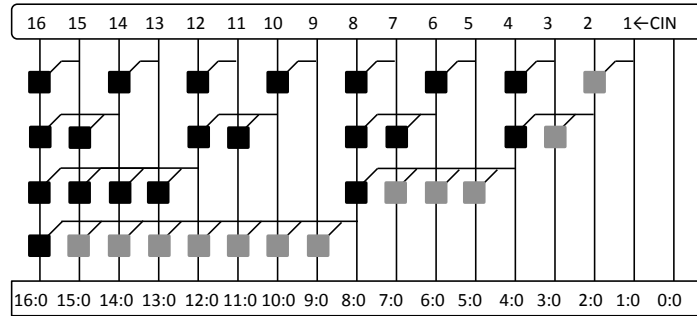
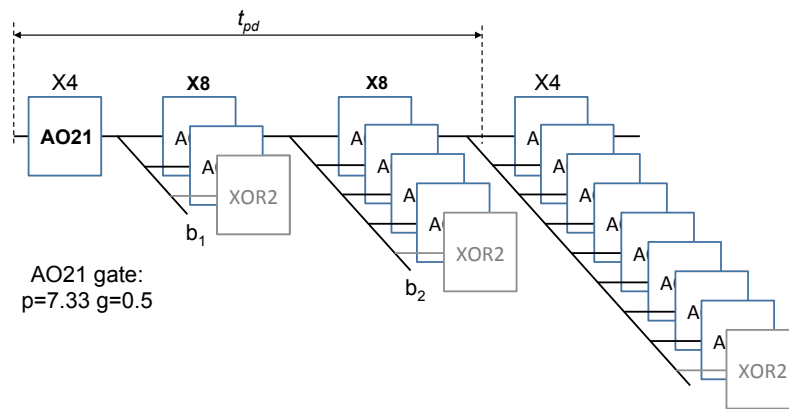

Figure 5: The Sklansky 16-bit PG tree.
Figure 6: The Sklansky tree for calculating the group generate signals with the optimal sizes for the AO21 cells derived by Kjell and data for the AO21 cell.
Consider the 16-bit Sklansky adder PG tree shown in Figure 5. Kjell derived the optimal sizes for the AO21 (and-or 2-1) cells that are used to form the group generate signals in this tree. See Figure 6 for the equivalent circuit of the tree with the optimal sizes which Kjell derived while disregarding the sum XOR gates. Each AO21 cell is made up of one and-or-invert 2-1 gate and one inverter. But what if we use inverting cells in the tree instead? Would the delay be shorter then? This is the question you are to investigate in this problem.
- Calculate the delay, t_{pd} , of the original tree using AO21 gates, with the sizes and the parasitic delay and logical effort values shown in Figure 6. The sum XOR gates should be completely disregarded! (2 p)
Interestingly, the resulting sizes are the same as in Figure 6. This is because stages with electrical efforts $g = 0.5$ and stage efforts $f = 2$ will result in the same electrical efforts, h , as stages with electrical efforts $g = 2$ and stage efforts, $f = 8$. Still the solution with more logic levels is a bit faster which is a bit surprising.